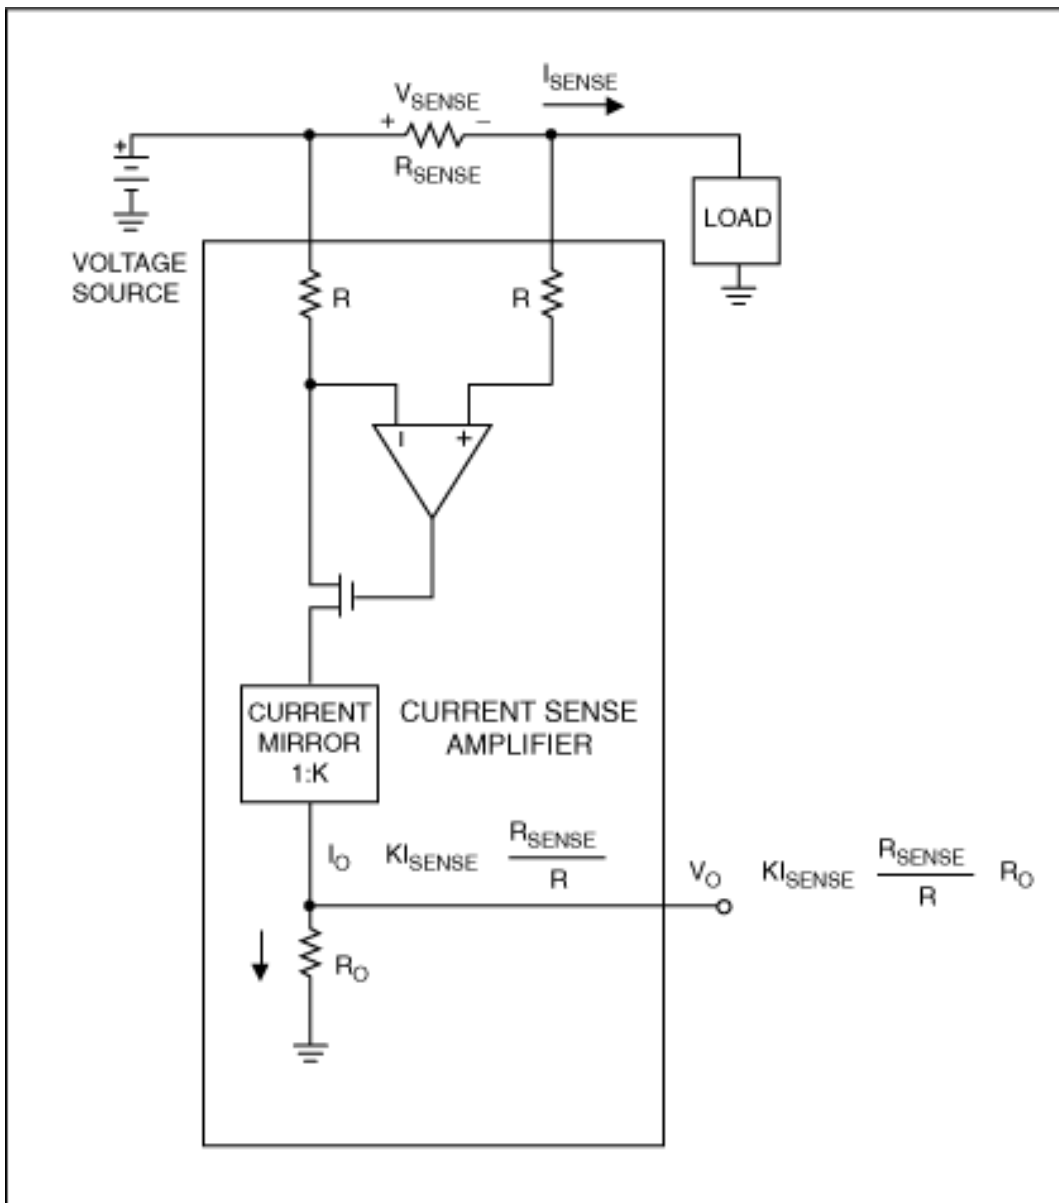
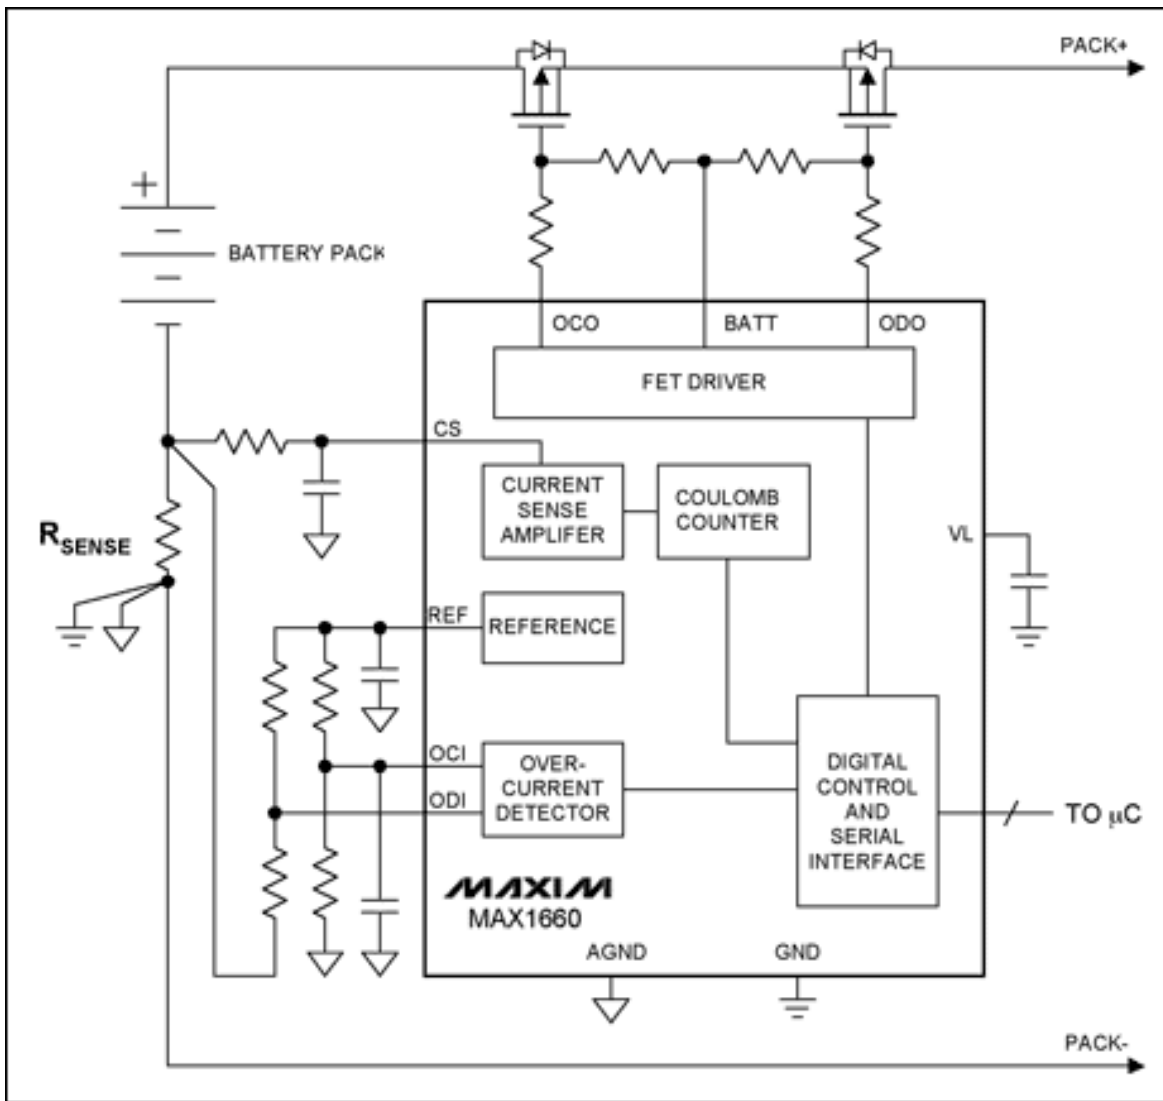
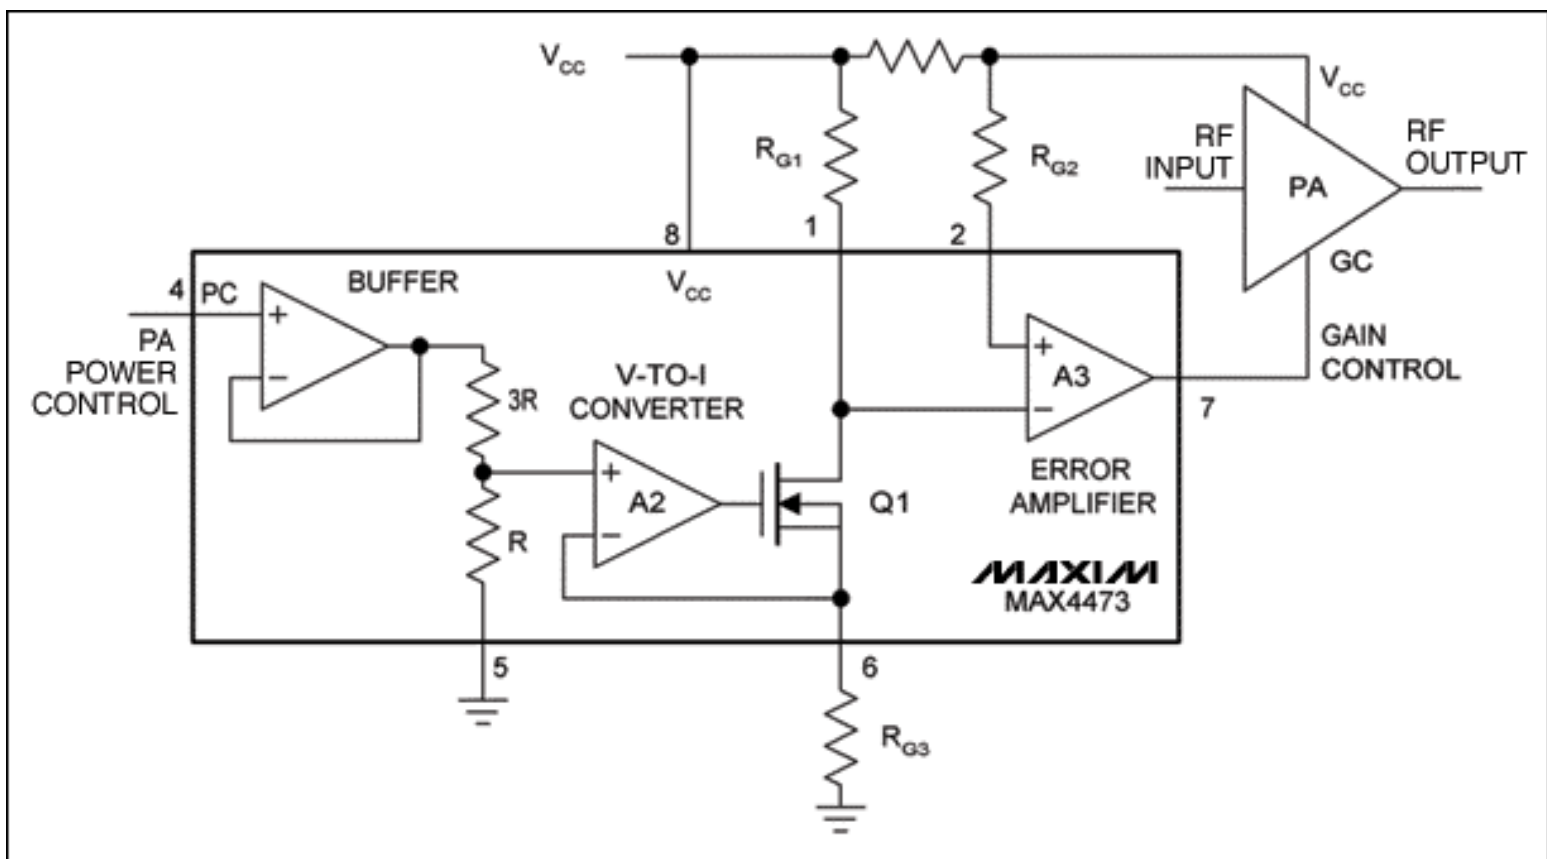

Figure 1. This high-side current sensor exploits Ohm's Law for current measurements.
Figure 4. Fuel-gauging devices like the MAX1660 track charge/discharge currents by monitoring the charges that flow in and out of the battery pack.
Figure 5. This current controller (MAX4473) dynamically adjusts the supply current to minimize power consumption while maintaining good signal integrity.
The current-sensing amplifier must have both low-input offset voltage and low input bias current. A dedicated high-side current-sense amplifier (**Figure 1**) places a current-sensing resistor between the voltage source (a battery, for instance) and the load. By avoiding extraneous resistance in the ground plane, that arrangement greatly simplifies the board layout and generally improves the overall circuit performance. Current passing through the sense resistor (R_{SENSE}) develops a voltage drop, which is sensed by the op amp and drives the MOSFET transistor to sink current through R . The voltage drop across R equals the voltage across the sensing resistor:
The current-sensing amplifier shown in Figure 1 is a relatively simple and general-purpose device. Specific applications such as fuel gauging and battery management, however, require that additional functions and features be integrated on-chip (**Figure 4**). Fuel gauging is important for battery applications, where battery capacity is monitored precisely to optimize system performance and prolong battery life.
Though similar to the current sensor in Figure 1, a PA current controller like the MAX4473 (Figure 5) incorporates an error amplifier and operates in a closed loop. Its operation is like a current source. The error amplifier (A3) compares and integrates any voltage difference between the IR drops across R_{SENSE} and R_{G1} , and feeds that output to the gain control (GC) input of the power amplifier. A3 increases the gain and the PA output power, and consequently the supply current, until the two IR drops are equal. The voltage-to-current converter comprising A2, Q1, and R_{G3} controls the voltage drop across R_{G1} ; users control the PA supply current externally, with the PC input: